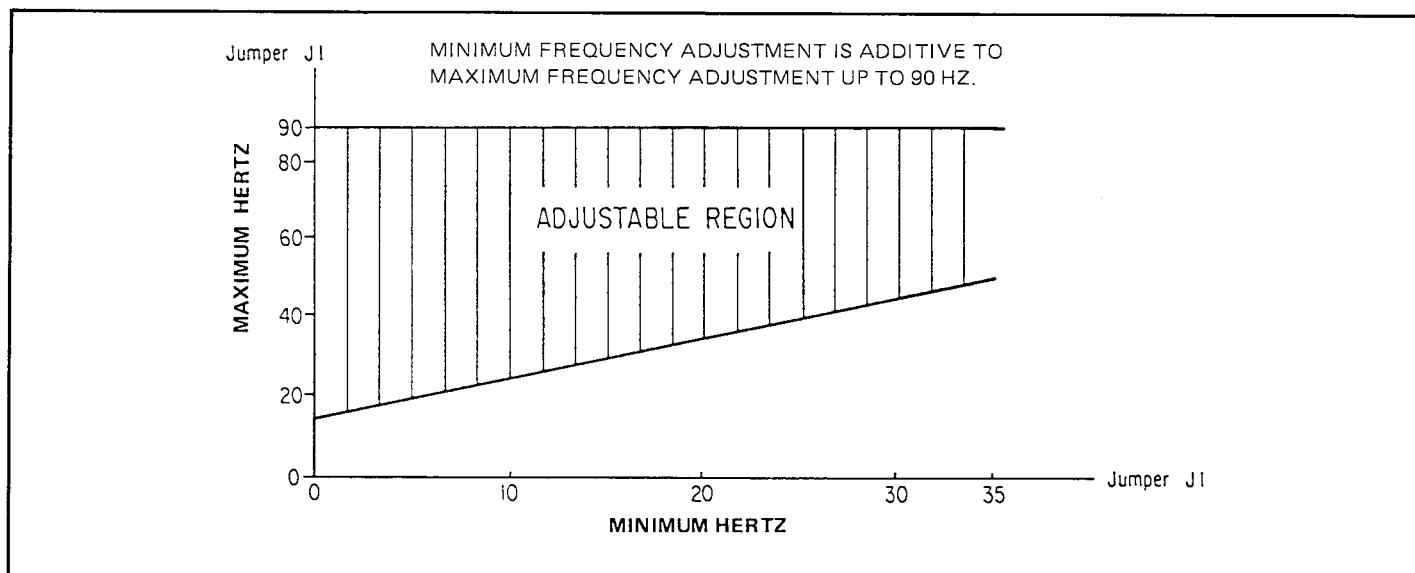

Figure 3-3. Relationship of Min Hz and Max Hz.
14. If a minimum frequency other than 6 Hz is required, adjust the Min Hz (4P) pot as follows (See **Figure 3-3**):
15. If a maximum frequency other than 60 Hz is required or if minimum frequency was changed in Step 14, adjust the Max Hz (3P) pot as follows (See **Figure 3-3**): Note that the Min Hz pot must always be adjusted before adjusting the Max Hz pot.